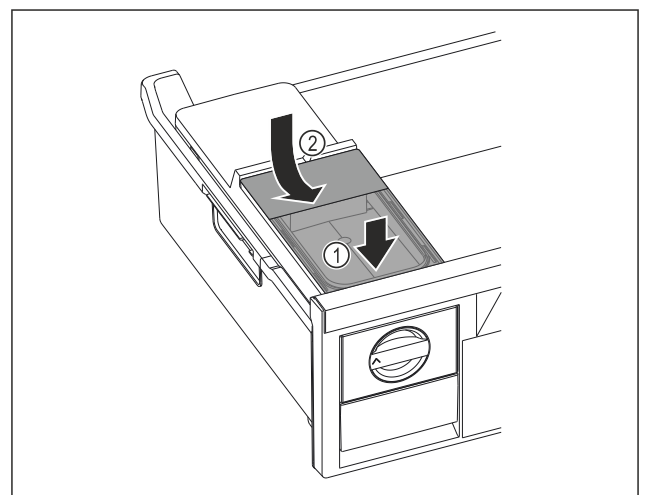

Fig. 104
- ▶ Position the water tank at the front. *Fig. 104 (1)*
- ▶ Lower the water tank at the rear. *Fig. 104 (2)*